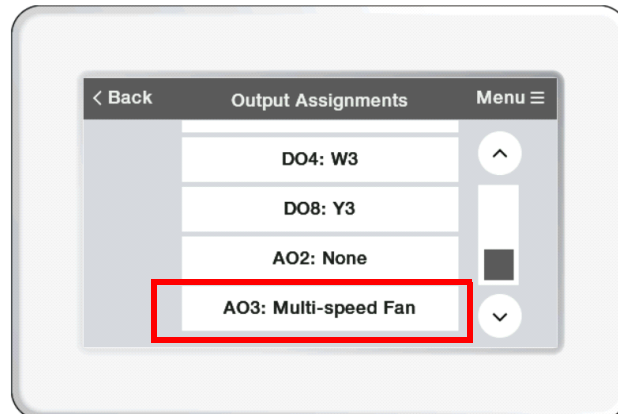

Fig. 5.
- d. Select “AO3 for Multispeed Fan” see Fig. 5.